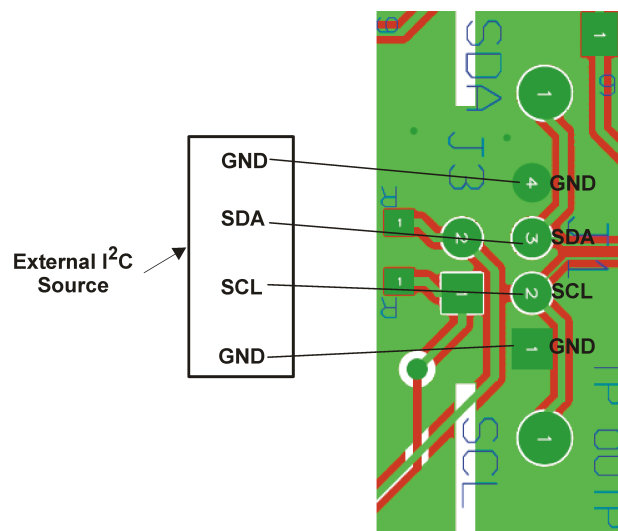

Figure 5. Connect I²C Controls to JP3
3. Remove shunts between J1 and J3 and connect I²C controls to J1 as shown in Figure 5.